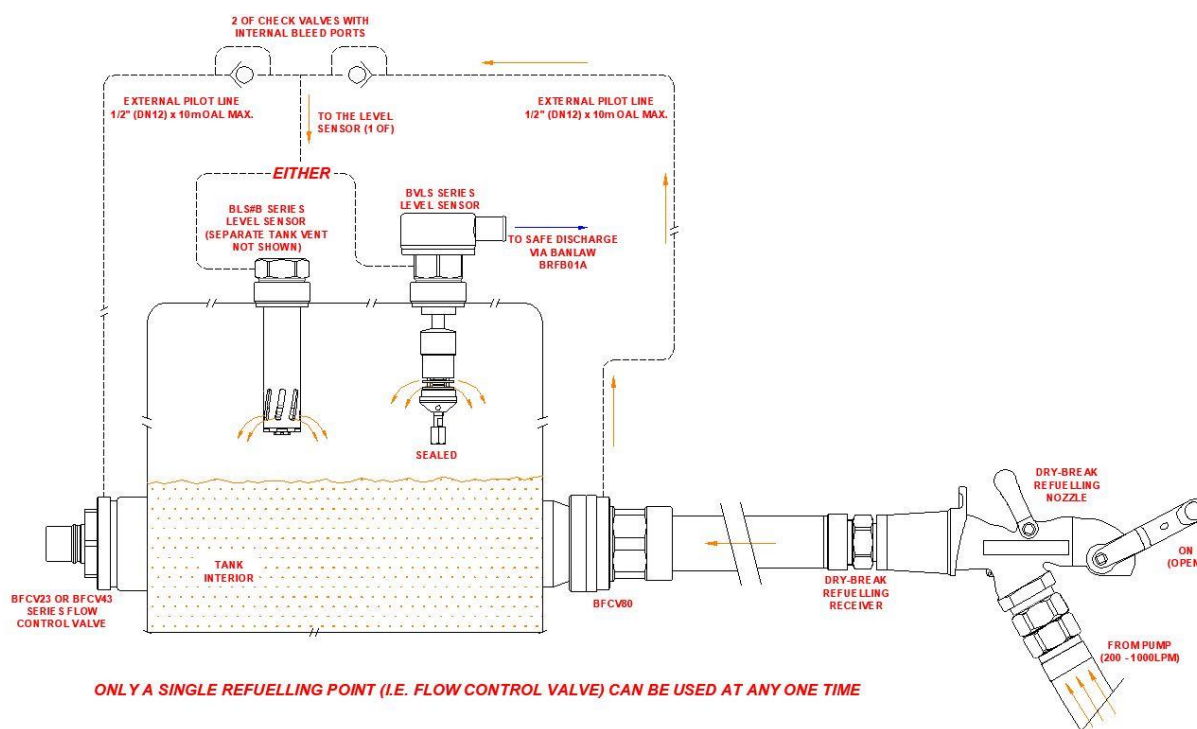

Figure 19 - Common BVLS Level Sensor with Dual Flow Control Valves (2 Fill Points)
For tanks with dual (2) refuelling lines, a single (common) BVLS series Level Sensor can be configured as per Figure 19 using either;